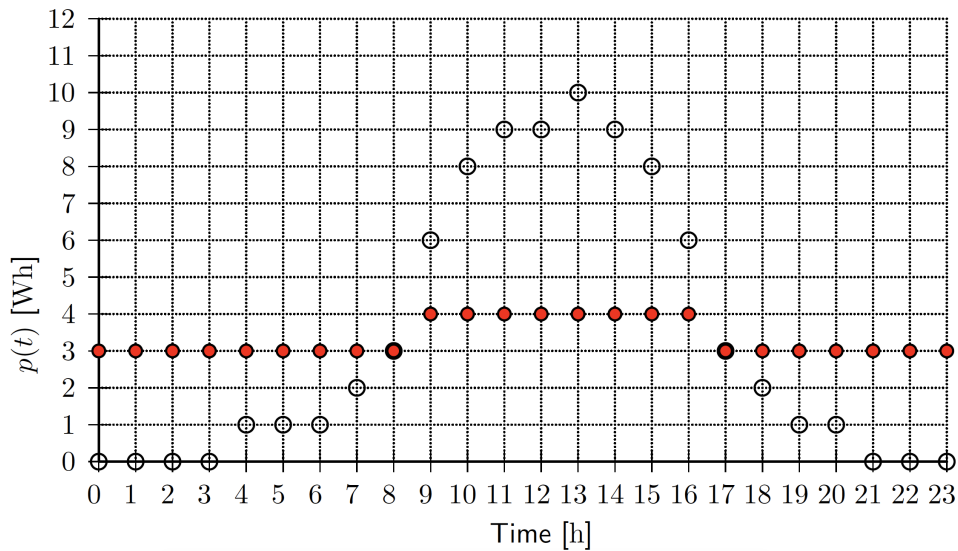

Figure 5: Application Control, Task (b)
- (b) (8 points) Suppose now that $B = 33 \text{ Wh}$. The harvested energy function $p(t)$ is given in Figure 5. Determine an optimal energy usage function $u^*(t)$ that maximizes the utility and never leads to failure state. Draw $u^*(t)$ into Fig. 5.
- When choosing $u(t)$ for the whole day, then this appears to be the maximal minimum use energy: At b(17), the battery is full and at b(8) it is empty. Any further increase in $u(t) = 3$ will inevitably lead to an unfeasible solution.
- During the time interval with surplus energy ($t \in [9, 16]$) we can increase the use function to $u(t) = 4$ without violating any feasibility constraint and still achieving a full battery at time 17. Red dots in Fig. 5 represent $u^*(t)$.